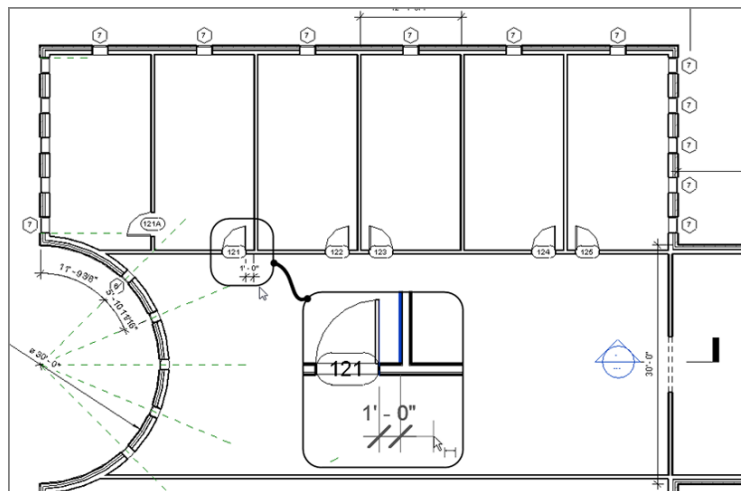

FIGURE 5.38: Placing a dimension
2. Place a dimension between the door and the wall, as shown in Figure 5.38.